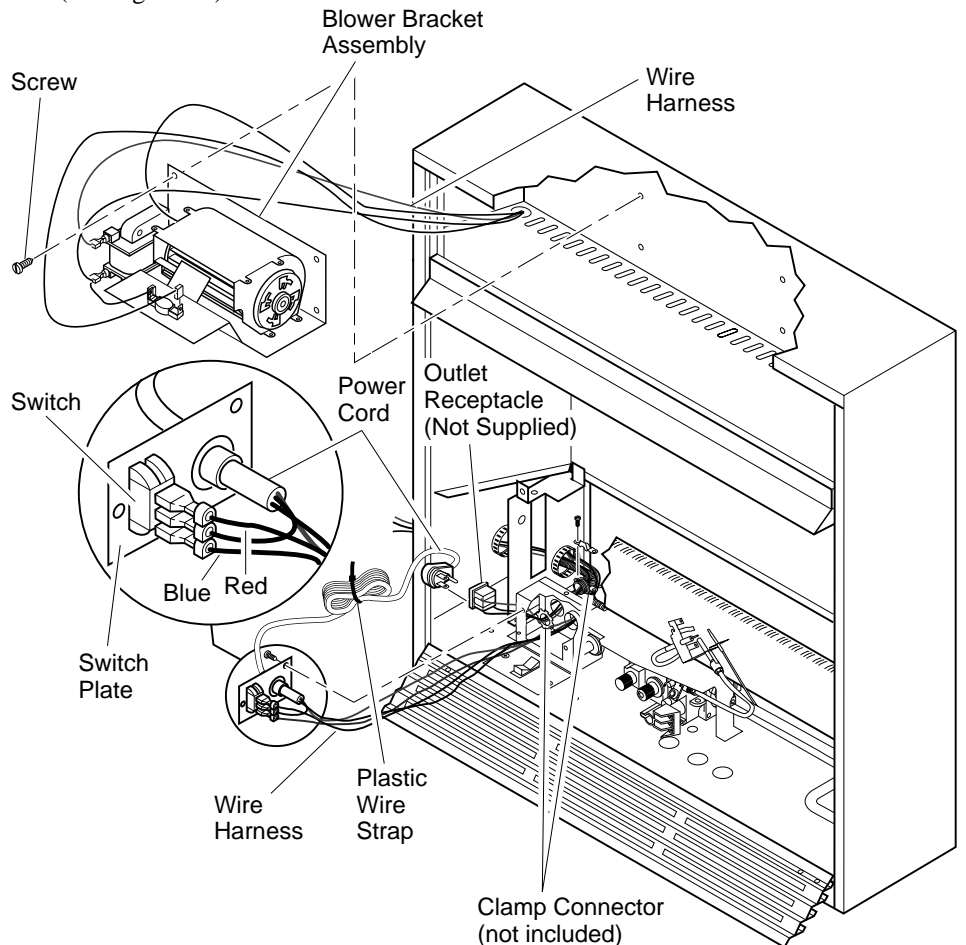

Figure 19 - Installing Blower Bracket Assembly
4. Plug power cord to the outlet receptacle (not provided) as shown in figure 19. Wind the extra cable in power cord and tie it up with the plastic wire strap (see Figure 19). Set the cable bundle between the burner bracket and outer casing, away from the burner.